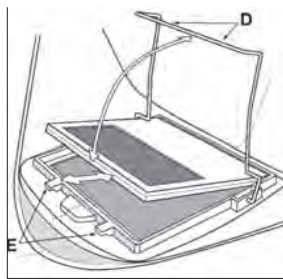

Figure 3
**Fitting New Cartridge:** Take the new shade cartridge and pass the potentiometer cable under the wire loop before placing the cartridge into its retaining frame inside the helmet. Hinge down the wire loop and ensure the front edge of the loop (D) is properly retained under the retaining lugs (E) as shown in (figure 3).